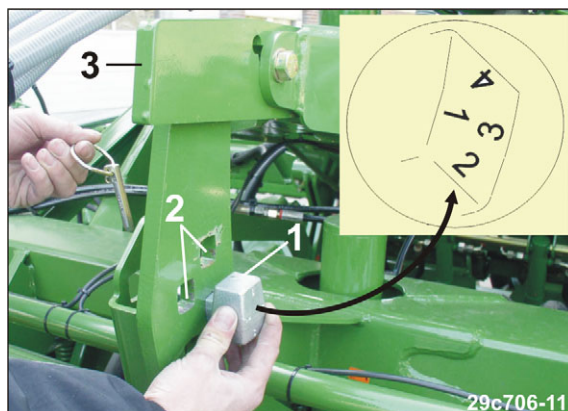

Fig. 138
Hold the depth regulations bolt so that your hand is never between the bracket (Fig. 138/3) and the depth regulation bolt (Fig. 138/1)!
4. Position the depth regulation bolt (Fig. 138/1)
- the deeper is the square hole (Fig. 138/2) selected to position the depth regulation bolt
- the greater is the number of the depth regulation bolt on the contact surface of the bracket (Fig. 138/3).